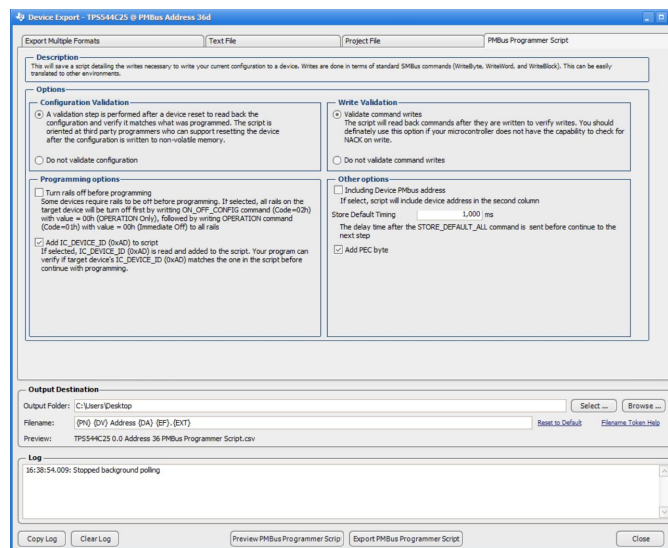

Figure 9. Exporting Script File
- **Script File:** A setup of I2C, SMBus and PMBus commands that configure the device. These commands are shown in the script file. The formats are text (.txt) and Excel (.csv). Fusion GUI and third party programmers can use a script file. The file contains steps to program a single device using PMBus commands. Click “Export PMBus Programmer Script” to save the file as Figure 9 shows.
Figure 9 shows four options that can be selected when the script file is saved.